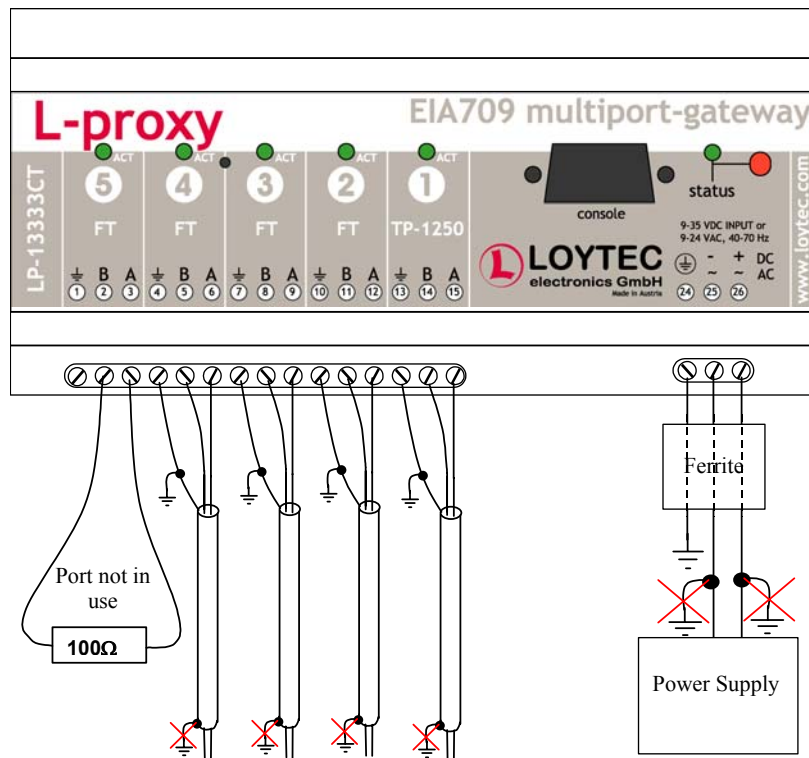

Figure 13: Connecting the L-Proxy (LP-13333CT)
*Note!* Do not ground one of the power supply wires on terminal 25 and 26 (see Figure 13)!
**Important:** *All used and unused ports must be properly terminated. For unused ports, it is recommended to use a 100 Ohm 0.25 W resistor between terminals A and B as termination (see Figure 13).*
**Important:** *All Earth ground terminals must be connected to the main Earth ground terminal 24. When using shielded network cables only one side of the cable should be connected to ground. Thus, the shield must be connected to earth ground either at the L-Proxy terminals or somewhere else in the network, but never at more than one place (see Figure 13)!*
Figure 13 shows an L-Proxy where Port 5 is not used.